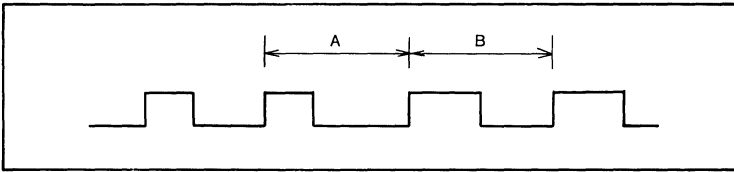

Fig. 1 Change of PWM output
If data register value is changed during PWM output (cycle A), (i. e. when write to the lower byte of the prescaler register or the PWM register is completed), PWM output is changed from the next cycle (B) to the output PWM cycle (A). (See Fig. 1)